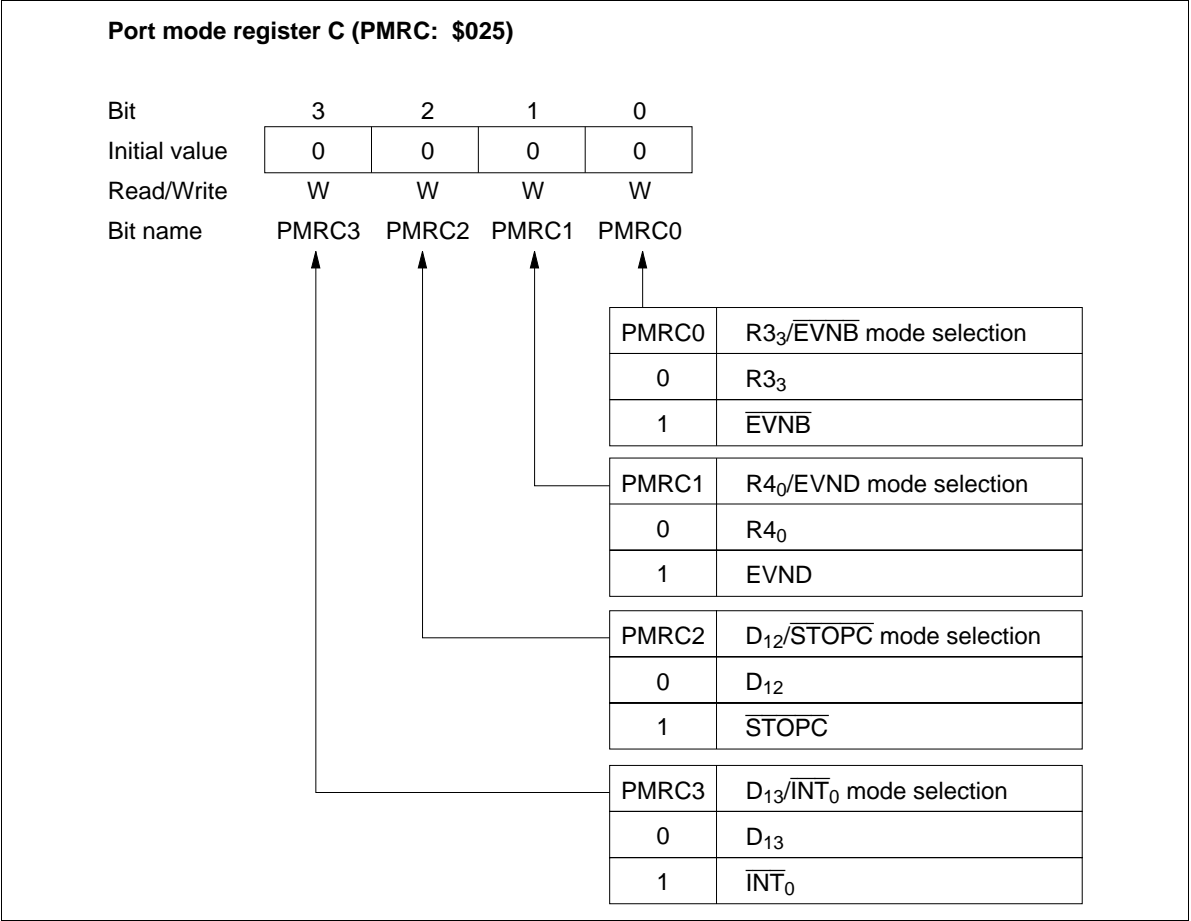

Figure 50 Port Mode Register C (PMRC)
- Port mode register C (PMRC: \$025): Write-only register that selects R3₃ $\overline{\text{EVNB}}$ pin function as shown in figure 50. It is reset to \$0 by MCU reset.